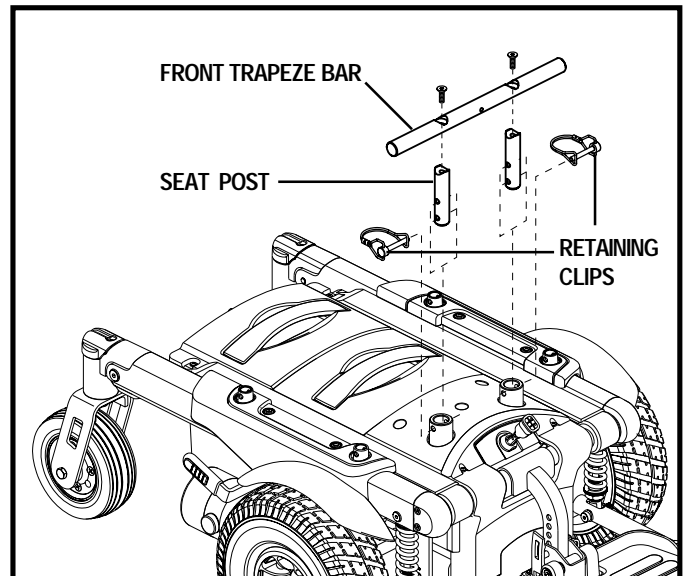

Figure 15. Front Trapeze Bar Height Adjustment
You can change the seat height to one of two positions in 1-in. increments by raising the front and side trapeze bars. See figures 15 and 16. If you raise or lower either the front trapeze bar or the side trapeze bars, you can also change the seat base angle (dump).
4. Loosen the screws that attach the trapeze bars to the seat posts. See figures 15 and 16.